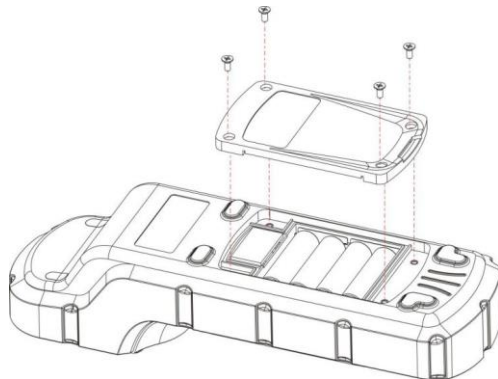

Figure 3 Replace Batteries
The SP-910 battery compartment, shown in Figure 3, is on the back side of the instrument. Insert a small pad underneath the screen area to make the back-surface level when the instrument is turned upside down. Install batteries as followings:
2. Insert four batteries into the battery holder as shown in Figure 3. Make sure the positive battery polarity marker (+) is aligned with the positive marker (+) on the battery holder.